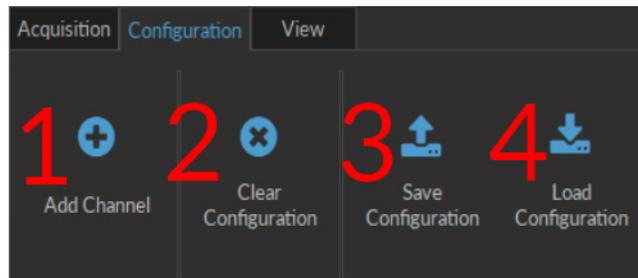

Figure 3.19: Configuration Tab
1. The **Add Channel** button (Fig. 3.19) opens the **Channels configuration** window. This window is detailed in section 3.2.1.
2. The **Clear configuration** button (Fig. 3.19) resets the acquisition view and all other parameters set. Any configurations already set will be lost.
3. The **Save configuration** button (Fig. 3.19) allows a console configuration to be saved in the **.doric** format. This file will only preserve the configuration of each current channel.
4. The **Load configuration** button (Fig. 3.19) allows a console configuration in **.doric** format to be loaded.